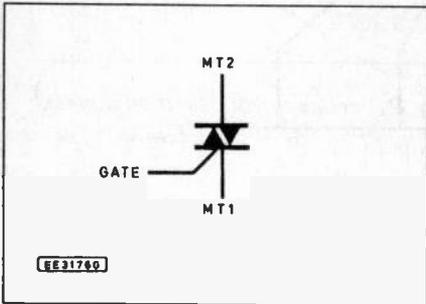

Fig. 8.5. Triac symbol.
Triacs are a refinement of the thyristor which, when triggered, conduct on both positive and negative half-cycles of the applied voltage. Triacs have three terminals; main-terminal one (MT1), main terminal two (MT2) and gate (G), as shown in Fig. 8.5. Triacs can be triggered by both positive and negative voltages applied between G and MT1 with positive and negative voltages present at MT2 respectively. These modes are summarised in the following table: